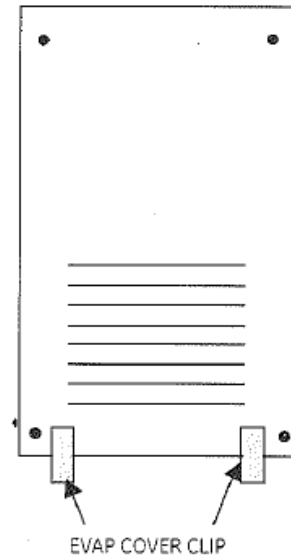

Figure 4
29. For Plastic Liners, attach two panel clips (included in kit) to bottom Evaporator Cover – one below each edge of louver so that lower air duct will cover clips when reassembled (see Figure 4).